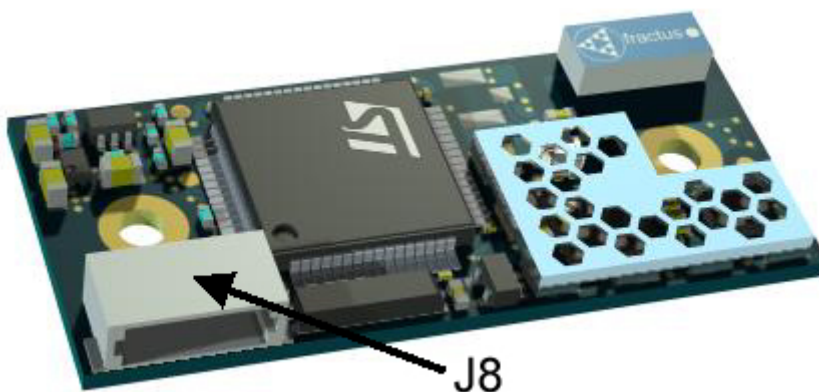

Figure 4: The JST connector J8 is mounted on the component side of the PCB as an option.
- Optional: Via the JST connector, J8 (see Figure 4). The connector is a 6 poles wire connector. The pitch is 1mm. The manufacturer of the mounted connector is JST and the part number is SM06B-SRSS-TB. The SM06B-SRSS-TB connector is mated with the wire connector SHR-06V-S from JST. Other connector options are also available from JST.